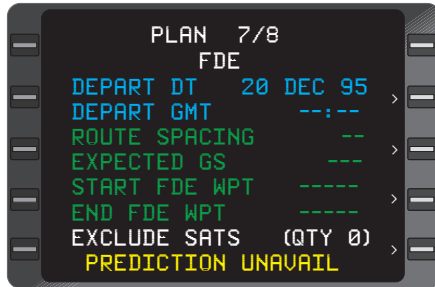

Figure 3-206
1. **PLAN** Key - DEPRESS to display **PLAN 7/8 FDE** Page. See Figure 3-206